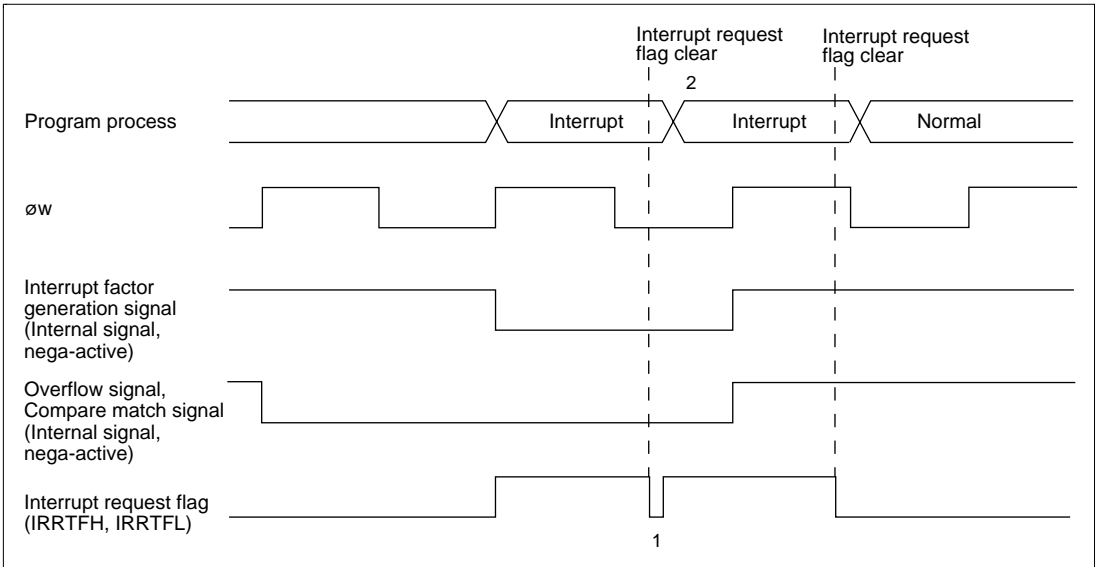

Figure 9-7 Clear Interrupt Request Flag when Interrupt Factor Generation Signal is Valid
When $\phi w/4$ is selected as the internal clock, “Interrupt factor generation signal” will be operated with ϕw and the signal will be outputted with ϕw width. And, “Overflow signal” and “Compare match signal” are controlled with 2 cycles of ϕw signals. Those signals are outputted with 2 cycles width of ϕw (figure 9-7)
In active (high-speed, medium-speed) mode, even if you cleared interrupt request flag during the term of validity of “Interrupt factor generation signal”, same interrupt request flag is set. (figure 9-7 1) And, you cannot be cleared timer overflow flag and compare match flag during the term of validity of “Overflow signal” and “Compare match signal”.
For interrupt request flag is set right after interrupt request is cleared, interrupt process to one time timer FH, timer FL interrupt might be repeated. (figure 9-7 2) Therefore, to definitely clear interrupt request flag in active (high-speed, medium-speed) mode, clear should be processed after the time that calculated with below (1) formula. And, to definitely clear timer overflow flag and compare match flag, clear should be processed after read timer control status register F (TCSRF) after the time that calculated with below (1) formula. For ST of (1) formula, please substitute the longest number of execution states in used instruction. (10 states of RTE instruction when MULXU, DIVXU instruction is not used, 14 states when MULXU, DIVXU instruction is used) In subactive mode, there are not limitation for interrupt request flag, timer overflow flag, and compare match flag clear.